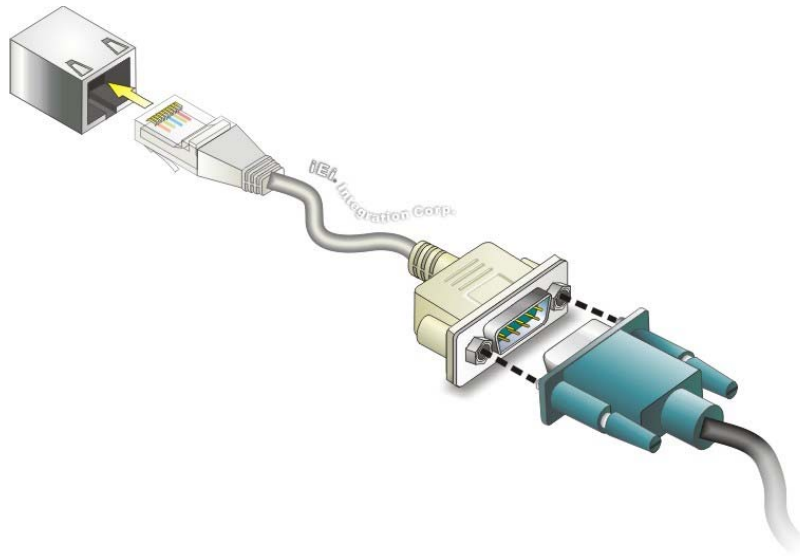

Figure 3-10: Serial Device Connector
Step 2: Insert the RJ-45 to D-sub 9 cable. See **Figure 3-10**.